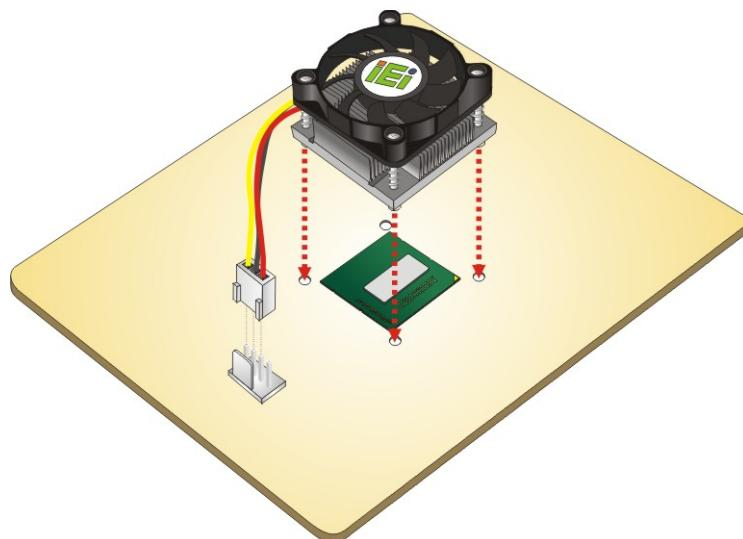

Figure 4-2: Align the Cooling Kit
Step 3: **Properly align the cooling kit.** Line up the four screws with the screw holes on the support bracket below the board (**Figure 4-2**).